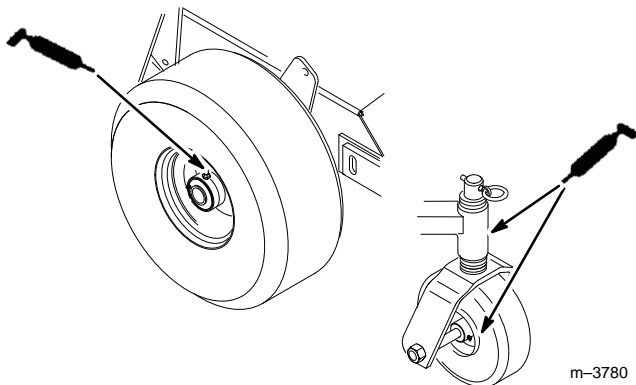

Figure 38
1. Lubricate the drive and castor wheel bearings and front spindles (Fig. 38). Lubricate every 8 hours.